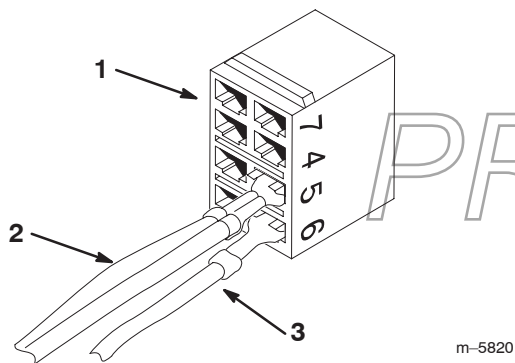

Figure 14
3. Unplug the light switch harness from the back of the light switch (Fig. 14).